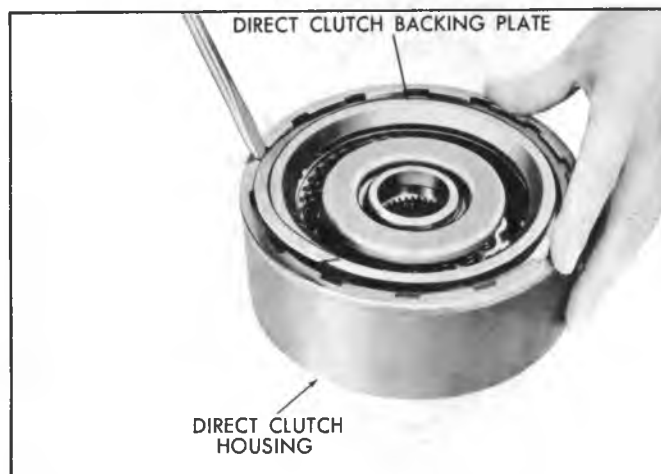

Fig. 91T--Installing Direct Clutch Housing to Backing Plate Snap Ring
10. Install backing plate retaining snap ring (fig. 91T).